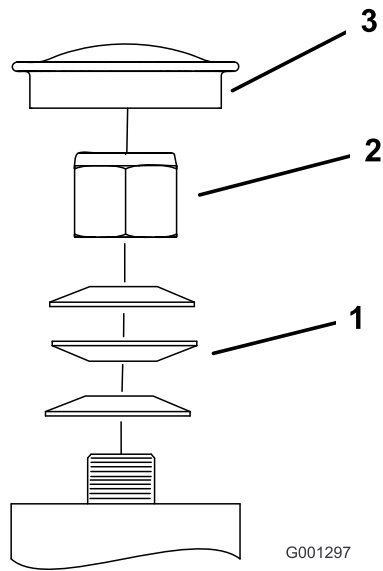

Figure 74
3. Remove the dust cap from caster and tighten the locknut (Figure 74).
4. Tighten the locknut until the spring washers are flat, and then back off a 1/4 turn to properly set the preload on the bearings (Figure 74).
- Important:** Make sure that the spring washers are installed correctly as shown in Figure 74.
5. Install the dust cap (Figure 74).